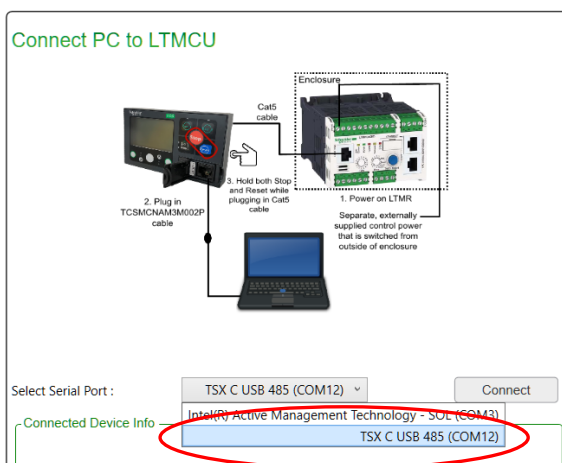
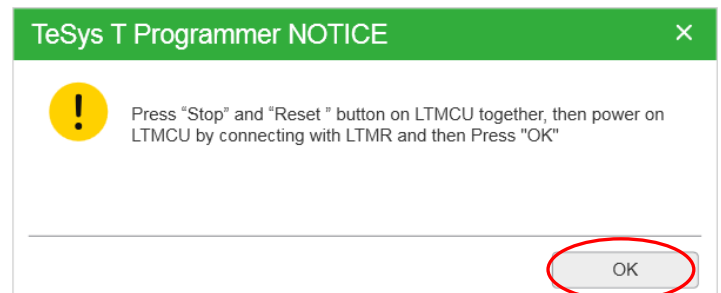

Figure 29
Figure 30
4. From the the pull-down menu located underneath the Tesys T graphic, Figure 29, select the COM port for the “TSX C USB 485”. In this example, it is COM 12. Click on the “Connect” button to connect to the Tesys T. A prompt will appear as in Figure 30. Refer to page 22 for more detailed instructions on how to complete the connection. If the prompt is followed and closed, the “Connected Device Info” field will populate, as in Figure 31